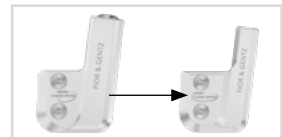

fig. 33
- 3 Mount the functional unit or cover plate of the desired system joint in the correct system width (see example fig. 33).